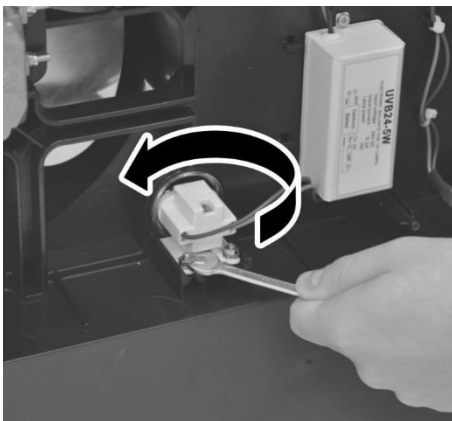

Fig. 33: Loosen the nuts on the bulb holder
3. → Loosen the lampholder nuts with a 7 mm spanner (Fig. 33).